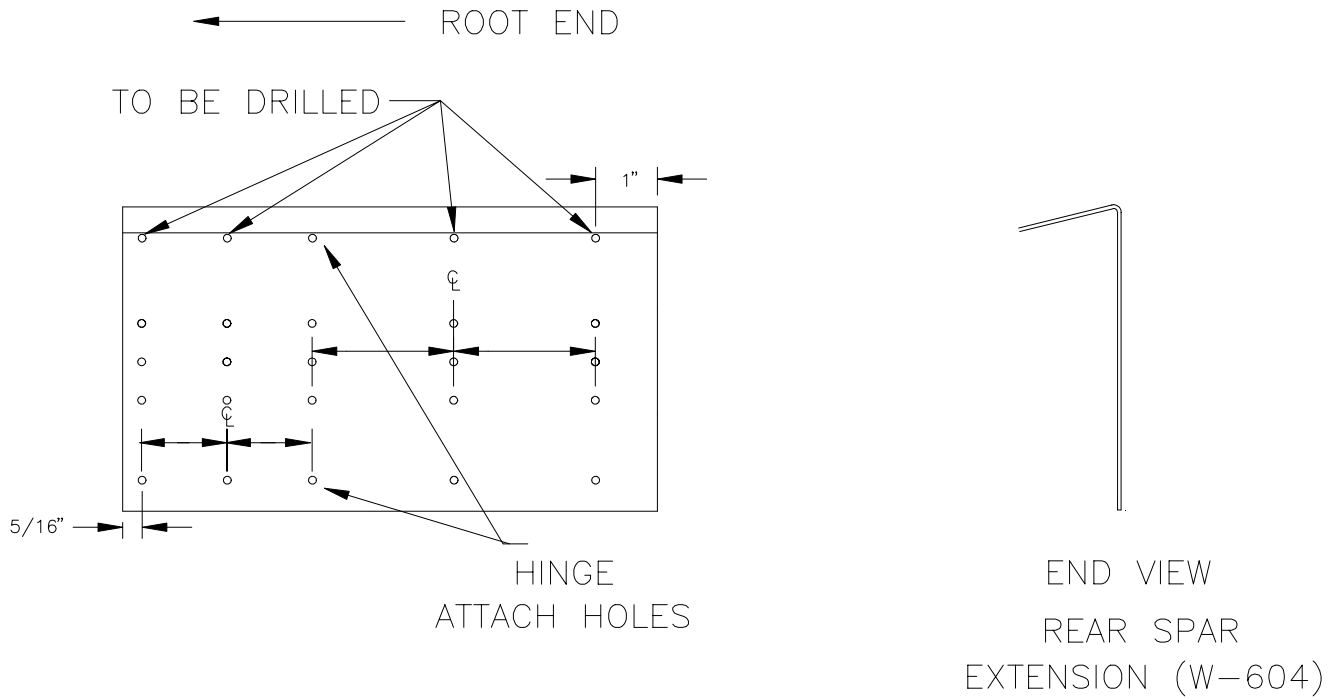

Figure 8.4.2
- 3) Remove the Rear Spar Extension, mark out the rivet pattern and drill all the holes to #40 as in Figure 8.4.2.